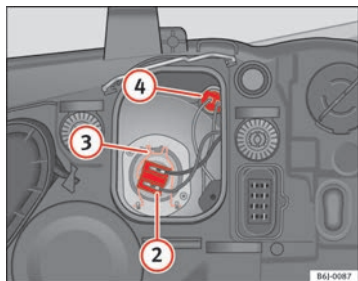

Fig. 134 Side lights
- Remove the connector ⇒ fig. 134 ② from the bulb.
- Unclip the retainer spring ⇒ fig. 134 ③, pressing inwards to the right.